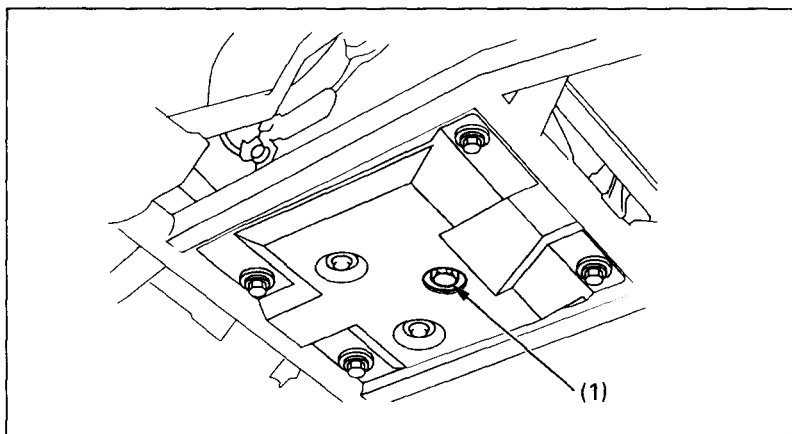

Fig. 4-11
2. Place an oil drain pan under the crankcase and remove the oil drain plug (Fig. 4-11).